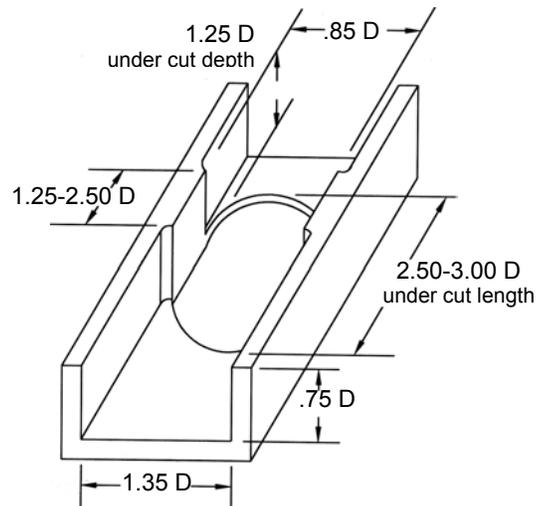

Figure 4 – Pinch Boss Configuration
4. Pinch Boss Groove. This groove is a regular O-Ring groove with a narrowed portion of the groove every 2 to 4 inches along the length. This groove is recommended for high volume molded or die cast applications. Figure 4 illustrates a typical pinch boss. Please note! The undercut directly under the pinched area is critical. Without the undercut at the pinched area, the gasket will create excessive force on the joint surfaces where closure of the surfaces may not be possible. The recommended tolerance on all of the dimensions with the exception of the depth is $\pm 5\%$. The recommended tolerance on the depth is $+ .002/- 0$ inches as with all the grooves.